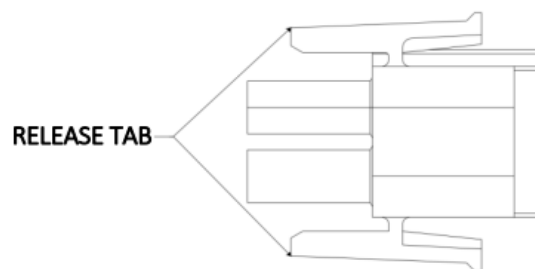
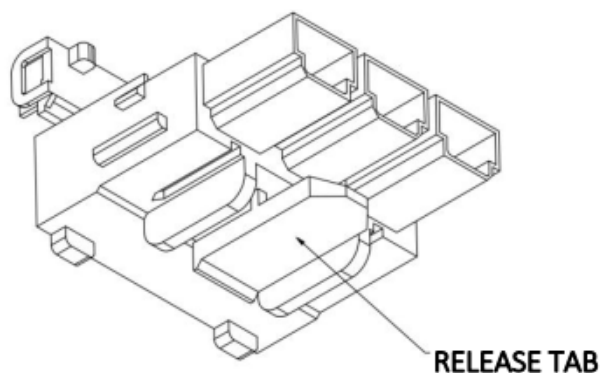

FIGURE 45 - Low Voltage Connector (6 Pin)
FIGURE 44 - Line Voltage Connector (3 Pin)
- 3) Disconnect low voltage (6 pin) & line voltage (3 pin) harness connectors by pressing on the release tabs and using a downward motion (FIGURE 44 - Line Voltage Connector (3 Pin) & FIGURE 45 - Low Voltage Connector (6 Pin)).